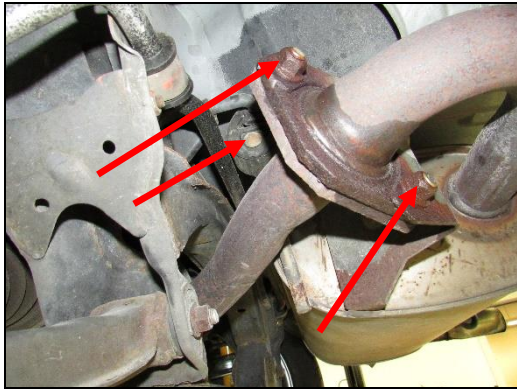

Figure 1
3. Start at the back of the car. Remove (x2) 17mm head nuts and (x3) hangers out of the rubber isolators. Then, remove the OE axle-back from the car (**Figures 1 & 2**).